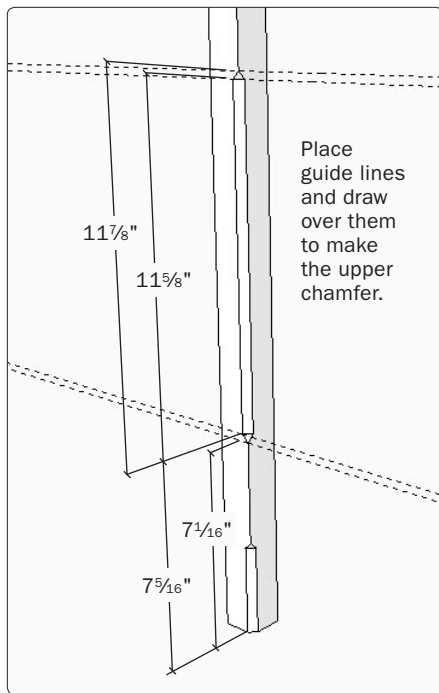

Figure 11. Use the dimensions shown to make the upper chamfer. Follow the same steps you did for the lower chamfer.
Step 9 Follow the same steps to create the upper chamfer, using the dimensions shown in Figure 11.